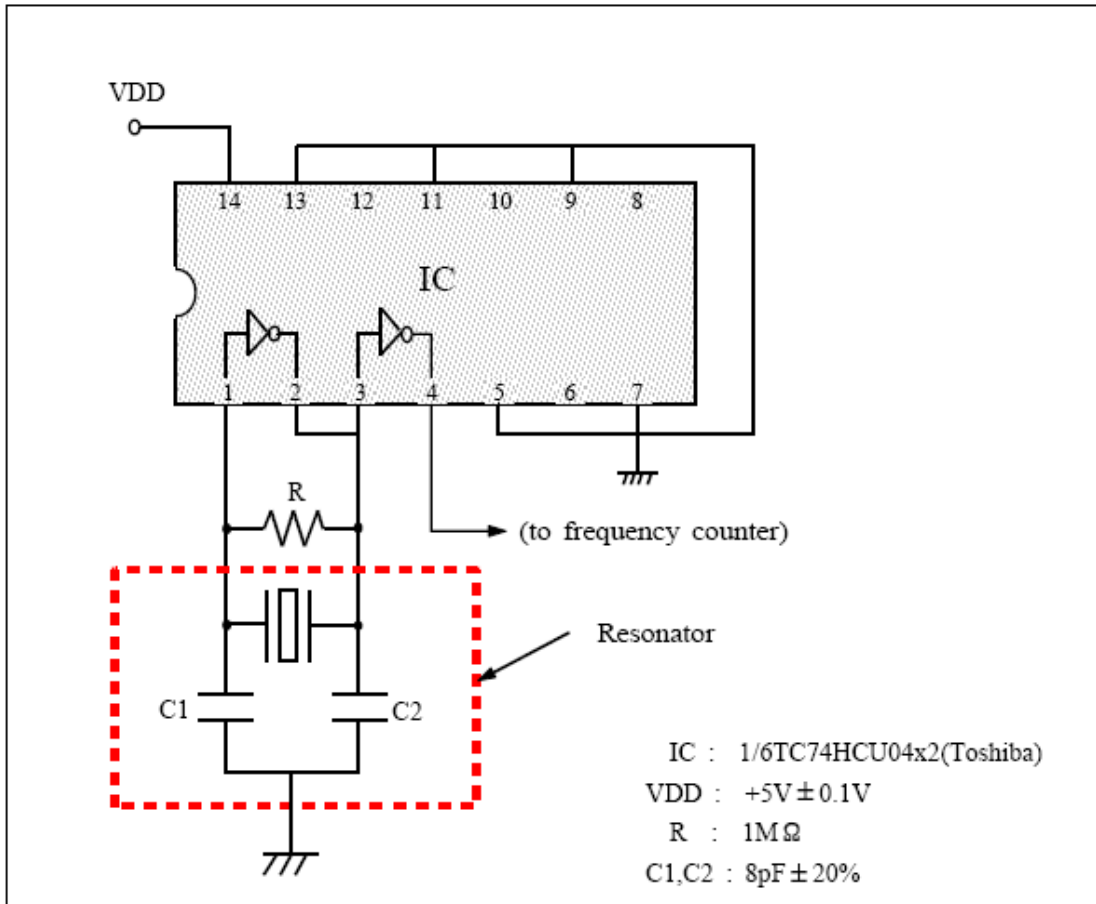

Figure 1. Test Circuit for Oscillating Frequency
The MHz ceramic resonator must meet the following performance when tested in the circuit indicated in figure 1 and figure 2.
- 7-4. Irregular or stop oscillation may occur under unmatched circuit conditions. And it shall be noted that oscillating frequencies of the Ceramics Resonator may drift depending on IC applied (the type names, the manufacturer) and capacitance of external capacitors(C1,C2) and the circuit design in figure 1.